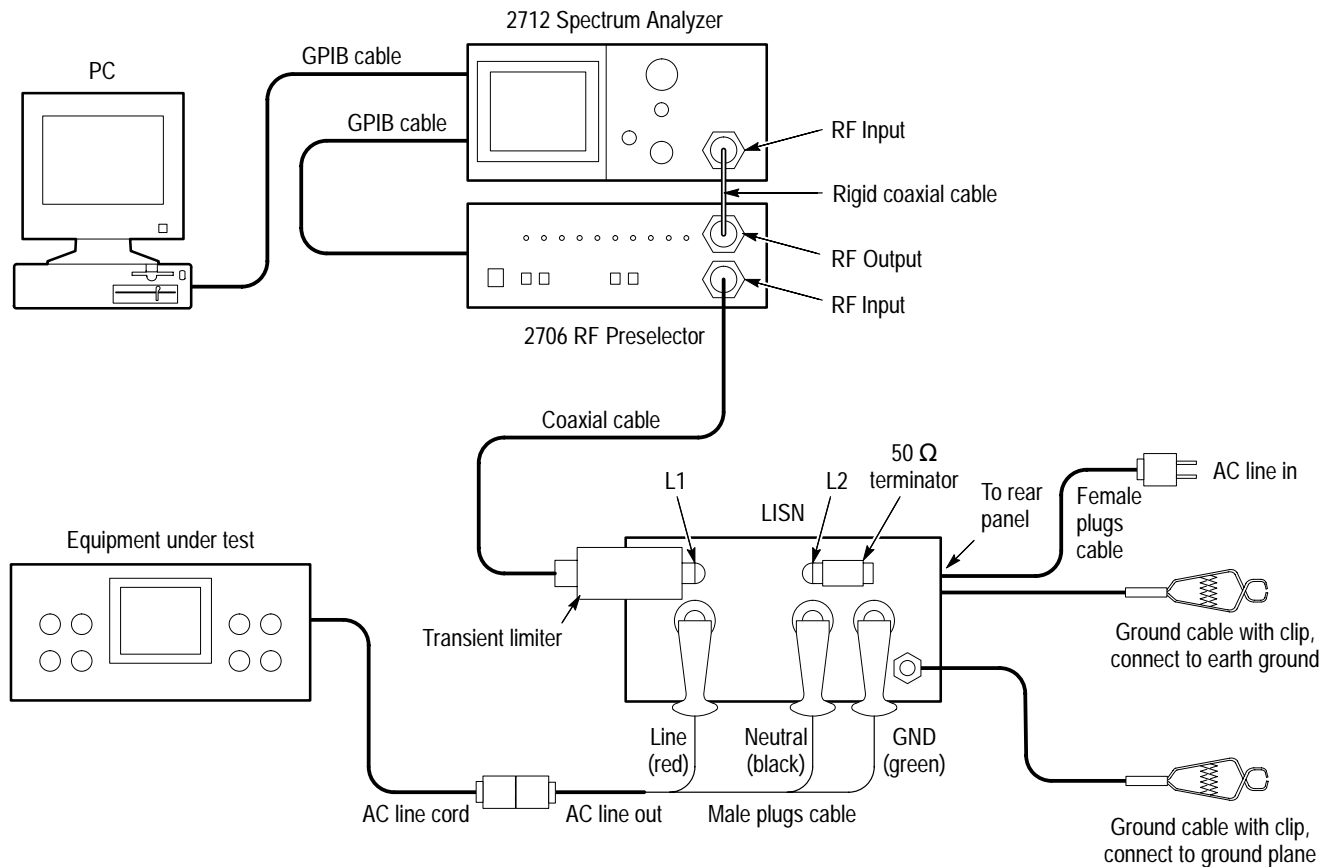

Figure 3: Equipment connections for conducted EMI measurements
The following equipment, supplied with the EMI measurement system, is necessary for conducted measurement tests. Refer to Figure 3 during the procedure for correct equipment connections.
The LISN includes six, 25 A pin plugs that you must connect to your AC power cords. Refer to Figure 3. Connect the three, colored, female pin plugs to the appropriate wires in the AC line cord that will connect to the AC mains. See the Female plugs cable in Figure 3. Connect the three, colored, male pin plugs to the appropriate wires in the female AC line-out cord. The AC line-out cord supplies power from the LISN, through the AC line cord, to the equipment under test (EUT). See the Male plugs cable in Figure 3. *Do not connect the line cords to power at this time.* Refer to the procedure on page 19 for the proper connection method and an important warning.
4. Before applying power to the LISN, make the following connections. Refer to Figure 3.